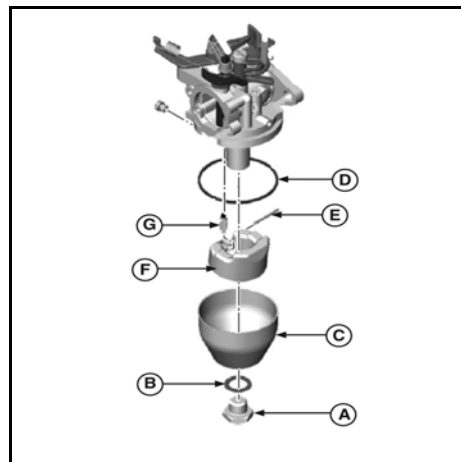

Figure 38
- Install new hinge pin (E, Figure 38), float (F), and new inlet needle (G).
- Install new bowl gasket (D) with the fuel bowl (C). Replace the fiber washer (B) and install the fixed main jet (A).